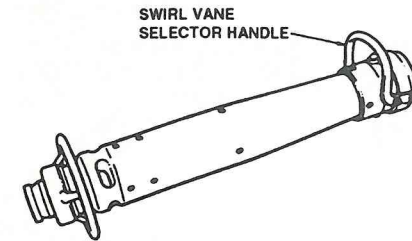

Fig 5-10. FB(10)X Foam Making Branchpipe
c. The FB(10)X foam making branchpipe (see Fig 5-10) and its successor the FB10/10 (which is a commercial variant, similar in appearance and performance to the FB10(X)) are high output branchpipes used at helicopter landing positions, on flightdecks and on vehicle decks. Hydrants at these positions have an inline inductor (the FBU10(X)) bolted to the flange before the instantaneous coupling. The pick-up assembly is attached to the inductor and has a shut off cock. The inductor passes the mixture of AFFF and water through the hose to the branchpipe which aerates and delivers the foam. To produce foam of good quality the FB(10)X needs HPSW mains pressure of at least 4.2 bar. This branchpipe can deliver foam to a distance in the form of a jet, or less forcibly as a spray.